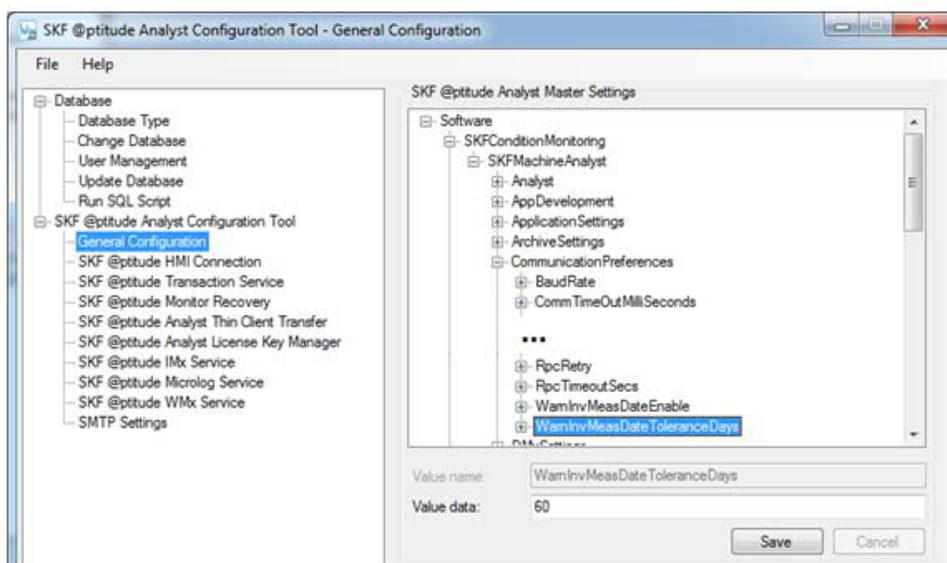

Figure 1. Adjusting the tolerance value
- WarnInvMeasDateToleranceDays defaults to 60 days. To change, highlight the key and change the Value data to the desired tolerance. [Figure 1]